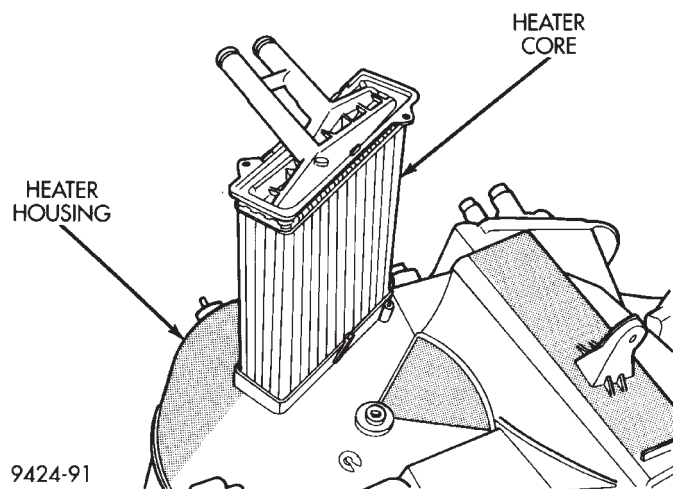

Fig. 47 Heater Core Removal
- (1) Disconnect battery.
- (2) Remove unit housing from vehicle. Refer to Unit Housing Removal and Installation in this section for procedure.
- (3) With the unit housing out of the vehicle, pull back heater core retaining clips. Then pull the heater core out of the heater housing (Fig. 47).